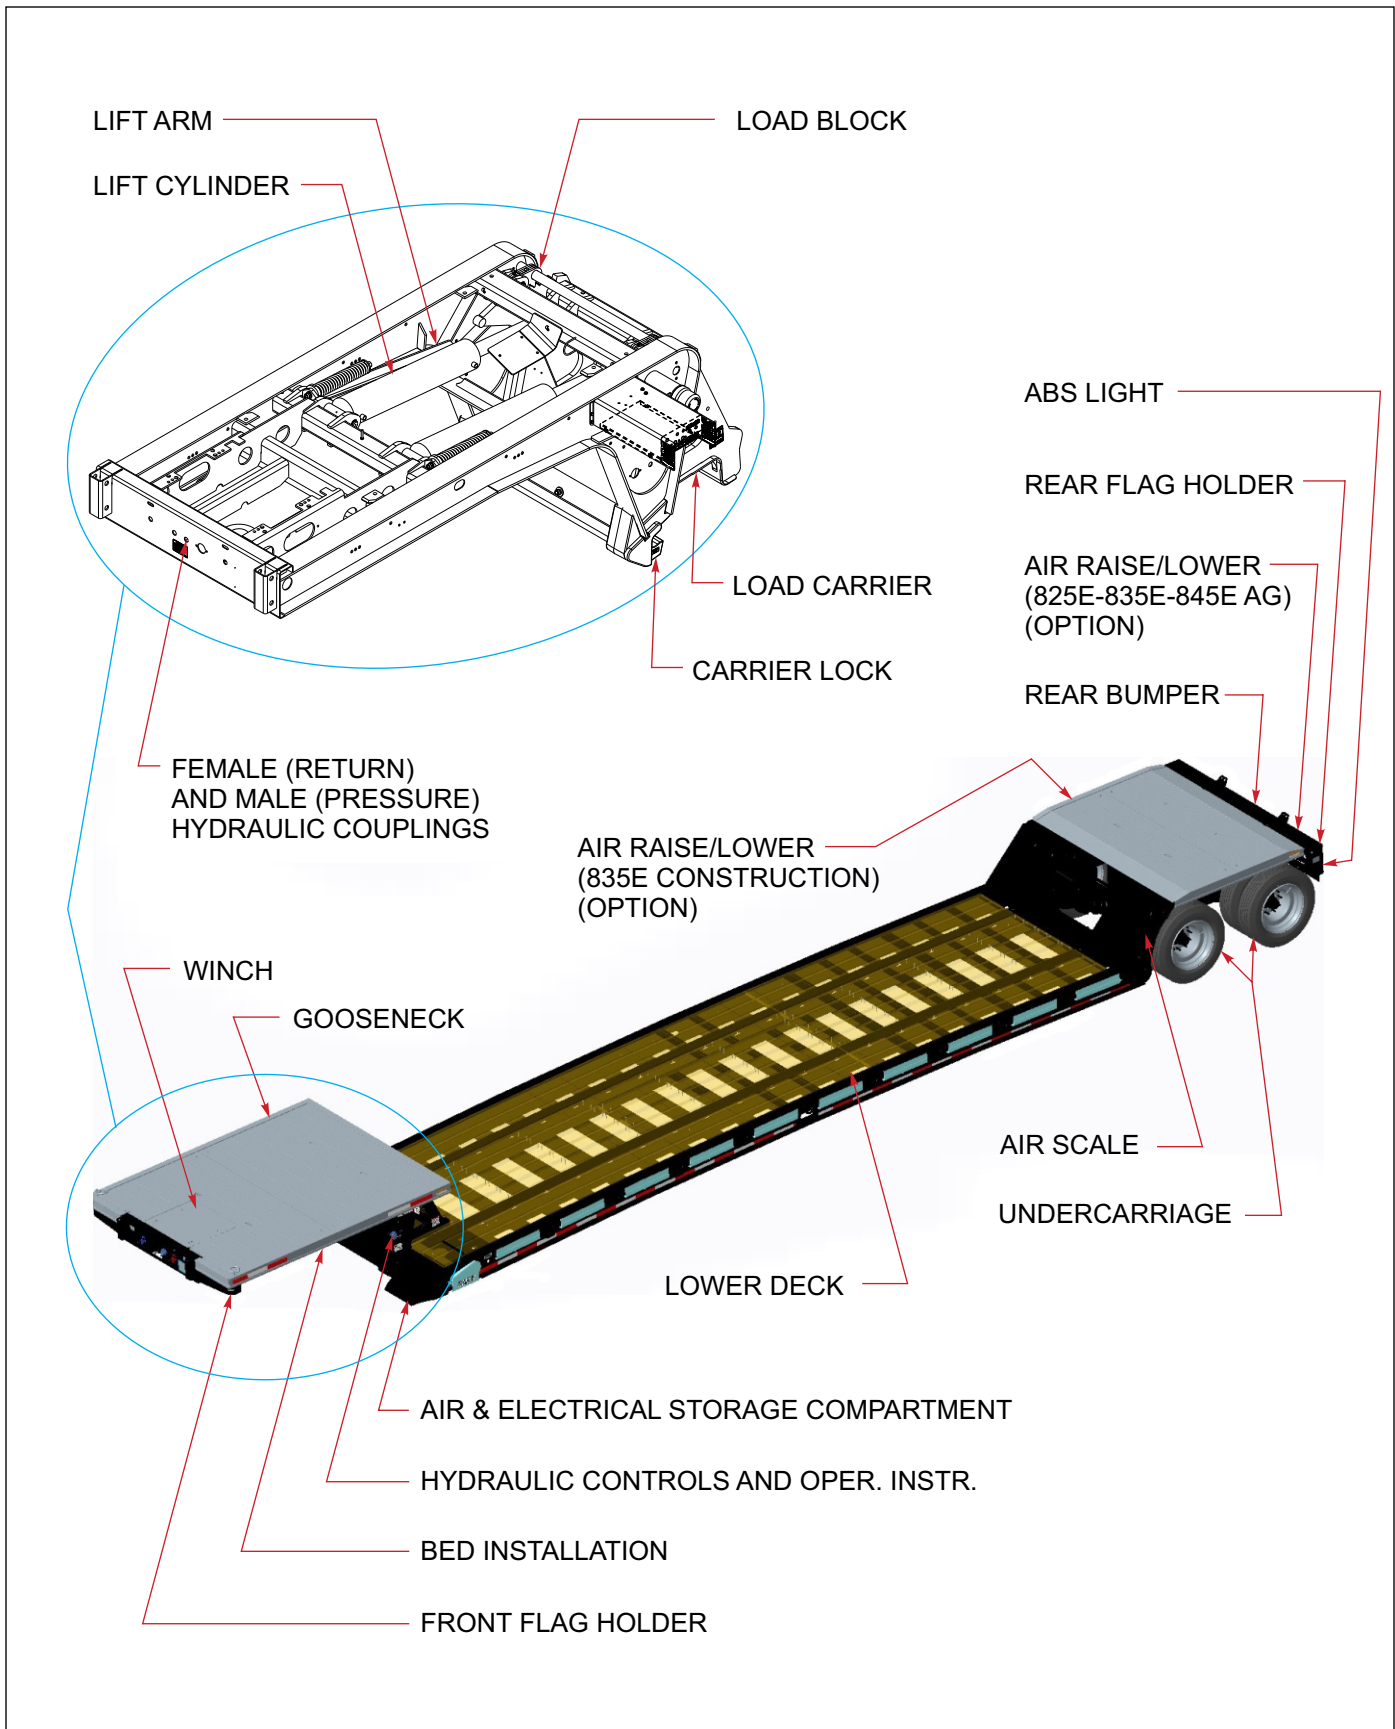

Figure 3-1: Trailer Terminology
This section supplies information for operation of the semitrailer. It describes and locates controls and gives general operation procedures. Read all instructions, warnings, cautions, and danger notes before attempting to operate the semitrailer. Operators must have proper training before operating the semitrailer. **See Figure 3-1 for location of semitrailer parts.**
2. Using the **TRAILER LIFT** lever, lift the trailer up until the load blocks can be lowered into position (**See Figure 3-1 and Table 3-1.**)
3. Activate the **TRAILER LIFT lever** "DOWN" until the semitrailer rests completely on the load blocks (**See Figure 3-1 and Table 3-1.**)
The **TRAILER LIFT lever** is located on the driver’s side of the gooseneck assembly (**See Figures 3-1 and 3-3.**) It is the middle lever and has three positions: